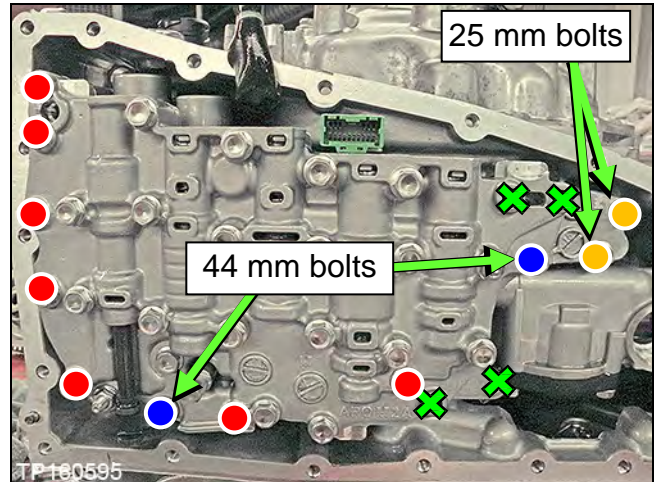
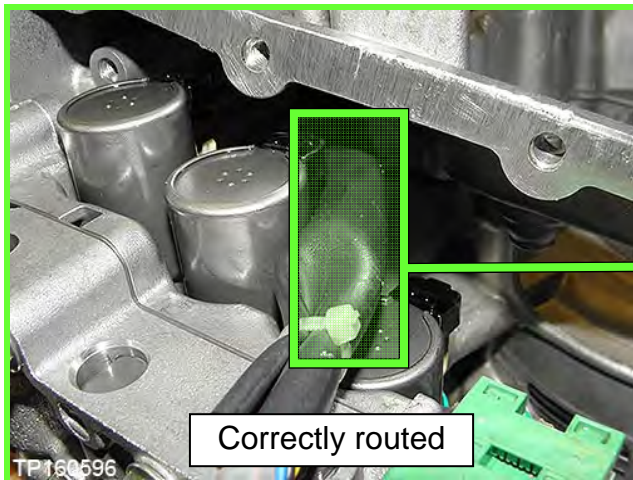

Figure 3J
Figure 4J
2. Install the Control Valve with eleven (11) mounting bolts (Figure 3J).
**IMPORTANT:** Leave four (4)  bolt holes blank at this step.
**CAUTION:** Make sure the wiring harness does not get pinched (see Figures 4J and 5J for correct routing).